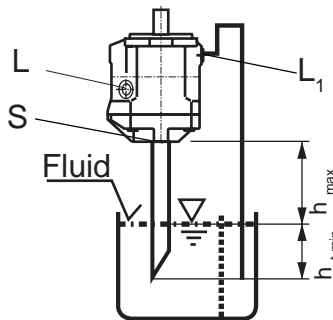

Fig. 2
b) If the minimum fluid level is below the pump mounting surface pipe port "L₁", and possibly "S" according to Fig. 2.
For mounting above a tank see fig. 2.